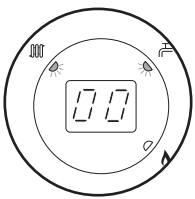

Fig. 77
6. The display will show '00', indicating maximum rate, then revert to 'P' alternating with the current boiler temperature (Figs. 77, 78 & 79).